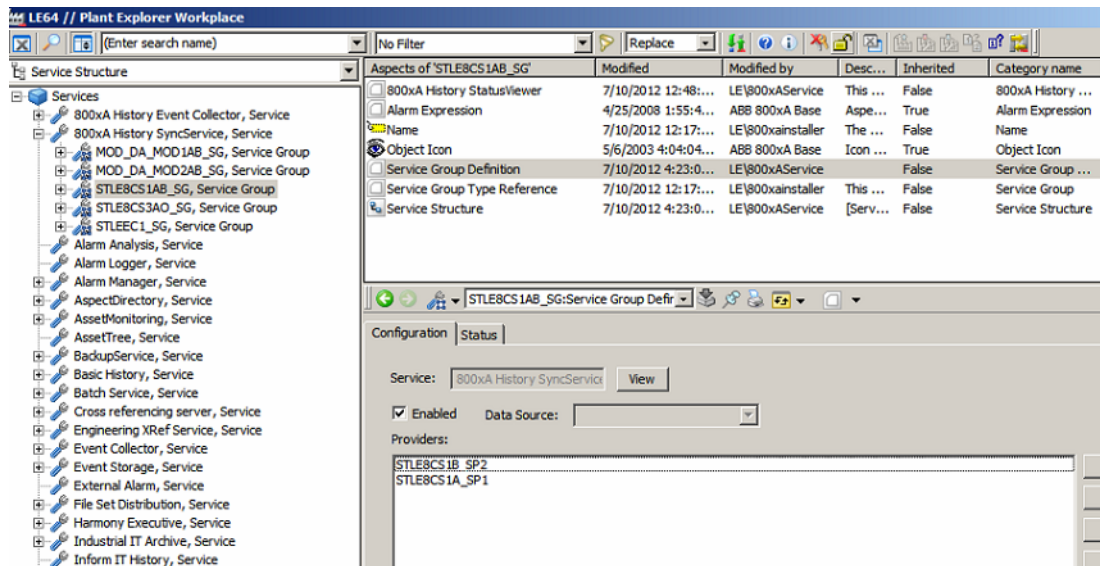

Figure 102. Service Group Definition
- By default, the Service Group Definition is selected in the right pane as shown in Figure 102.
4. By default, the Service Group Definition is selected in the right pane as shown in Figure 102